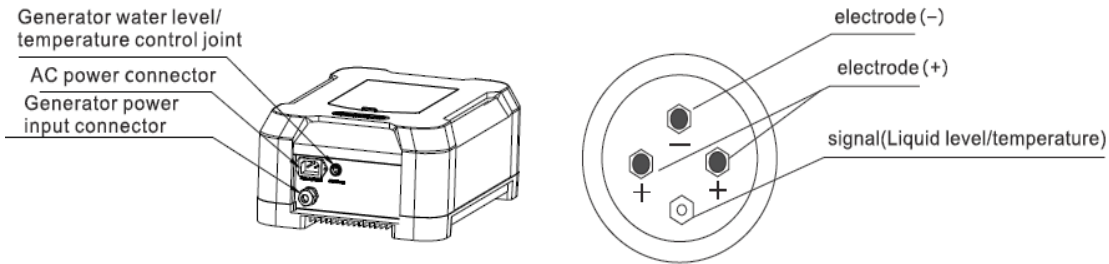

Figure 5-3
3. Connect the 2 red and 1 black electrode contact to the two poles of the generator, 2(+) pole tip and 1(-) pole tip correspondingly; then connect the control box and the generator with the water level / temperature joint wire correspondingly. (see figure 5-3/5-4)